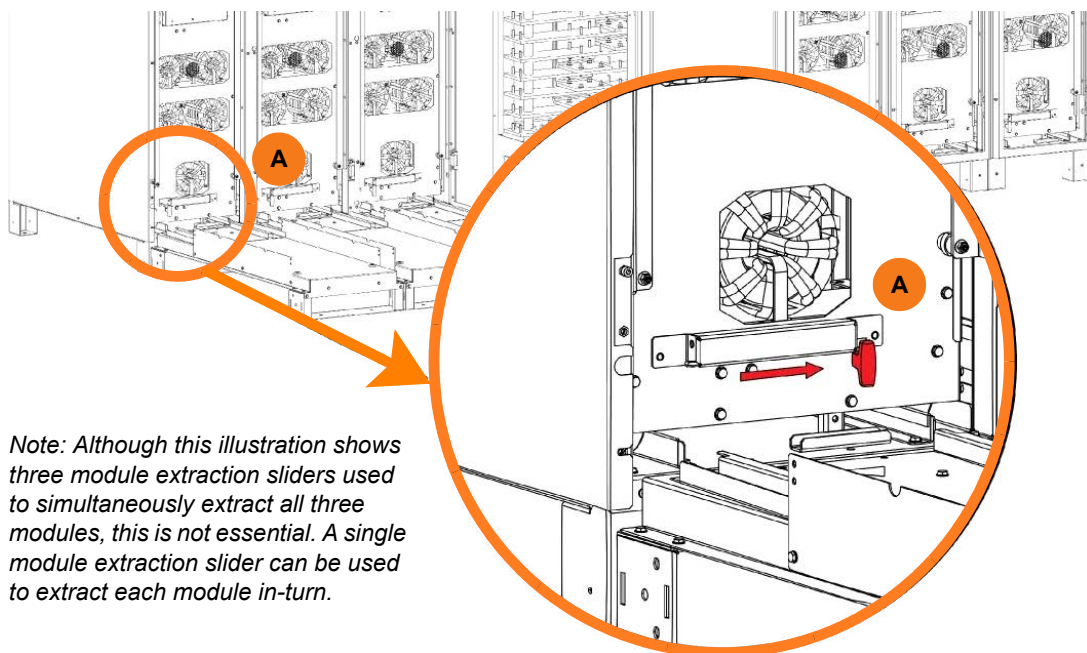

Figure 5.6 UPS Module power locking handle
- c) Ensure that the UPS module power locking handle is in the 'unlocked' position – fully towards the right hand side – as shown in Figure 5.6 (A).
- g) Lift the yellow safety lock to release UPS module locking bar then move the power locking handle to the 'locked' position – fully towards the left hand side, Figure 5.6 (A)..